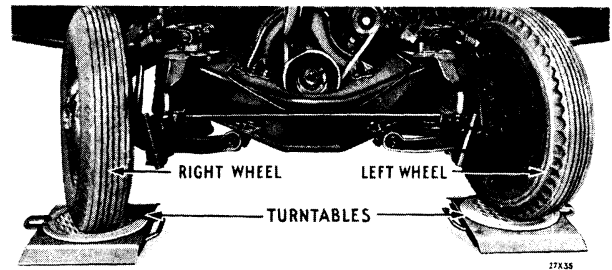

Fig. 79—Checking Toe-Out on Turns (Tool DD-435)
Before checking toe-out, wheel alignment on turns (Fig. 79), all other factors of front wheel alignment should be checked in their proper sequence, namely: king pin inclination, caster, camber and toe-in. Check amount of toe-out on turns as follows:
*Assuming that camber, caster, king pin inclination and toe-in are correct and that the steering arms are not bent, toe-out on turns will be within the specified tolerance. There is no adjustment to be made (Fig. 79).*